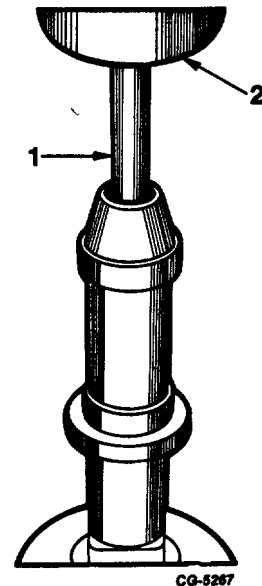

Fig. 26 Pressing Out Upper Bushing Using Knock-Out Bar
4. Place distributor housing on press bed. Insert knock-out bar through lower bushing and allow it to rest on bushing remover already installed in upper bushing. Press upper bushing from housing by pressing against knock-out bar (Figure 26).